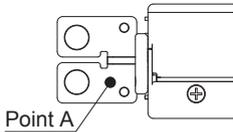

Fig. 1.1 PCA300F to PCA1000F Temperature measurement point
■ When wiring the load wire, because of heat generation, so that the temperature of points A in Fig1.1 or Fig1.2 is lower than the temperature specified in Table 1.1 - Table 1.4